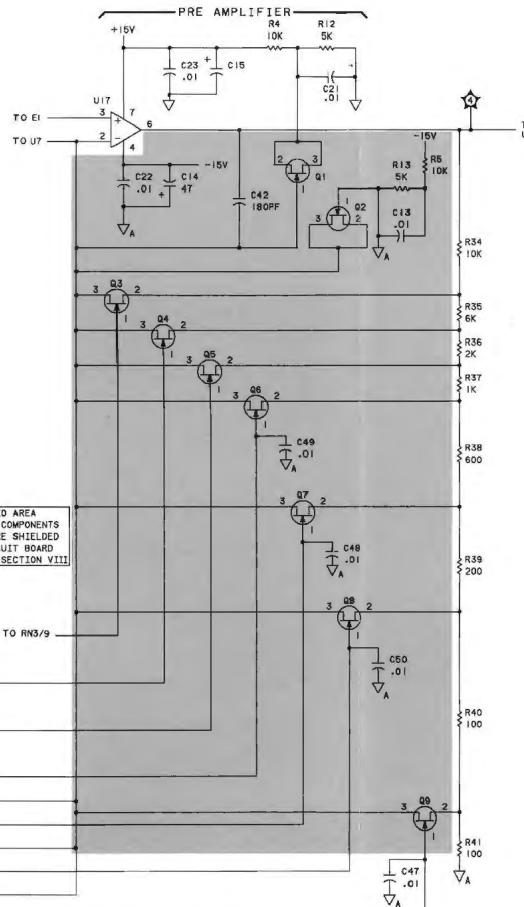

Figure 8-3. Preamplifier
8-21. The preamplifier circuit is a dc amplifier which includes integrated circuit (IC) U17 and its associated components, FETs Q1 through Q9 and gain resistor network R34 through R41. See Figure 8-3, Detail A. FETs Q1 and Q2 are connected as low leakage diodes to clamp pin 2 of U17 at ± 5.6 volts and help provide proper biasing for FETs Q3-Q9. These FETs (Q3-Q9) serve as switches for selecting the appropriate gain resistors (R34-R41) required to set the correct preamplifier gain. FETs Q3-Q9 are controlled by drivers U31-U33, (U33 not shown). When a change in the gain setting is required all zeros are loaded into the preamplifier gain control register U30. This results in switching of FETs Q3-Q9. A gain control word from the microprocessor representing the desired gain is loaded into register U30. The gain control word is placed on the output of register U30 causing the appropriate FETs to be switched on. The gain is selected so that the voltage at the output of preamplifier U17 is ± 2.0 volts for any full scale voltage listed in Table 8-1. The gain resistors are selected in a break-before make fashion with a waiting period of approximately 30 microseconds, before switching is complete.
8-22. IC U7 provides the pullup voltage for all FETs in the attenuator and preamplifier circuits. This pullup voltage is at about the same potential as the inverting input of U17. This ensures that the FETs can be switched on and off by the ± 10 V control signal at the gate of each FET. The pullup voltage (U7 pin 6) is also connected to a shielding trace that surrounds the preamplifier circuit. See Figure 8-3, Detail B. This ensures minimum voltage differential and input leakage current for the preamplifier.